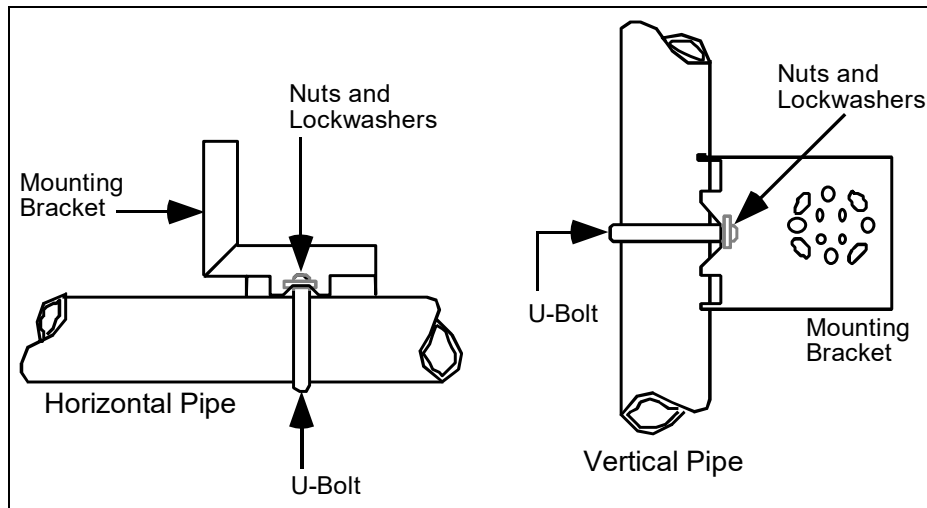

Figure 3-6: Angle Mounting Bracket Secured to a Horizontal or Vertical Pipe
1. Refer to Figure 3-6. Position the bracket on a 2-inch (50.8 mm) horizontal or vertical pipe, and install a “U” bolt around the pipe and through the holes in the bracket. Secure the bracket with the nuts and lock washers provided.